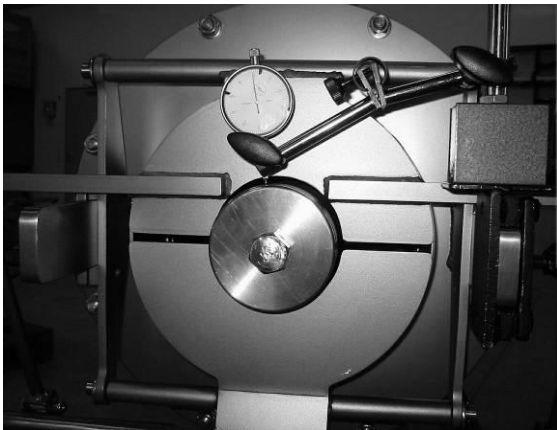

Fig. 13-13 Inspection of the auger axial eccentricity
6. Loosen the lock nuts of the scraping bolts and turn the scraping bolts roughly one turn counter-clockwise, see Fig. 13-13.
Check the auger again for axial eccentricity. This should be less than 1 mm, otherwise the screen will be damaged. Fig. 13-13 shows the axial eccentricity check at the factory. If the axial eccentricity is larger, inspect the auger and fastening elements again for damage, marks and soiling.